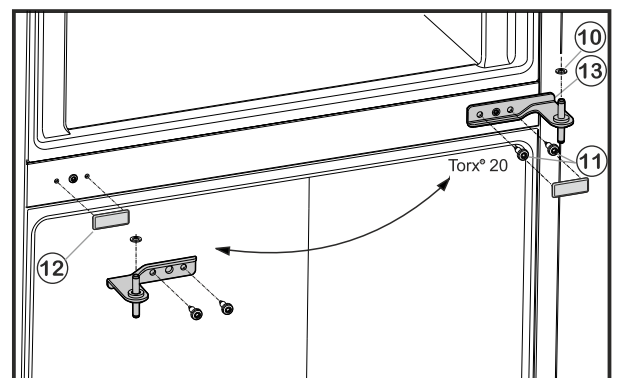

Fig. 6
- ▶ Unscrew the fastening screws Fig. 6 (11) (2 x Torx® 20) and pull the centre bearing block out of the lower door.
- ▶ Remove plastic washer Fig. 6 (10) .
- ▶ Remove the cover Fig. 6 (12) carefully.
- ▶ Re-install the cover Fig. 6 (12) on the opposite side.
- ▶ Insert the centre bearing block Fig. 6 (13) turned through 180° into the lower door and fasten firmly (**with 4 Nm**) to the new hinge side with the fastening screws Fig. 6 (11) (2 x Torx® 20).
- ▶ Refit plastic washer Fig. 6 (10).
- ▶ Set the upper door down on the centre bearing block Fig. 6 (13).